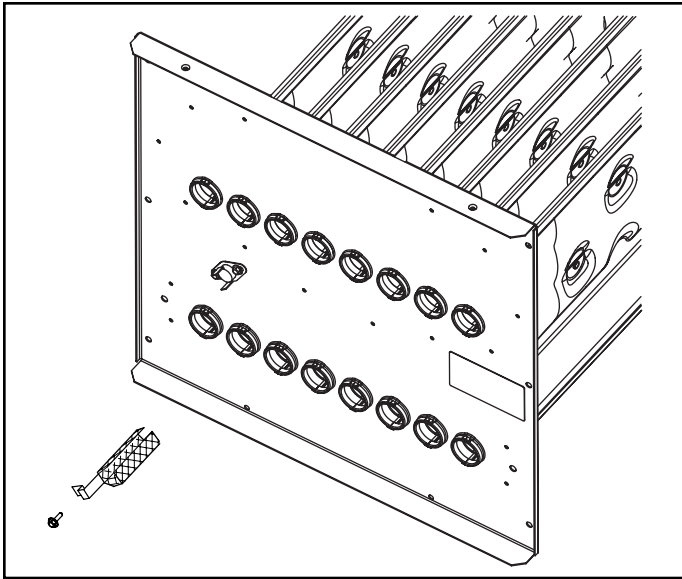

Figure 21. A80US2V NO_x Inserts
8. NOX units only - Remove screw securing NOX insert. Remove NOX insert. See Figure 21.